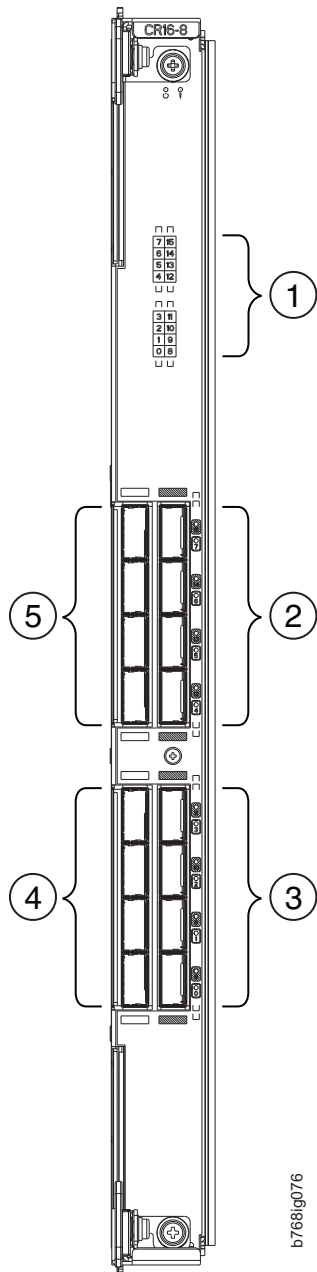

Figure 55. CR16-8 core blade
- Figure 55 on page 184 shows a CR16-8 core blade